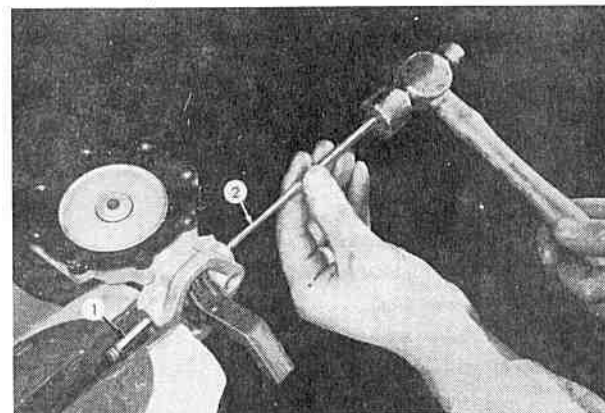

FIG. 391
To remove the rocker arm assembly, file the riveted end of rocker arm pin flush with the steel washer or cut off the end with 3/8-inch (9,5 mm.) drill. Drive out the rocker arm pin (1, Fig. 391) using AC tool PT 6, Kent-Moore tool No. KMO 707 (2). Wiggle the rocker arm until the links unhook from both diaphragms. Then remove the rocker arm spring, rocker arm, and link assembly.